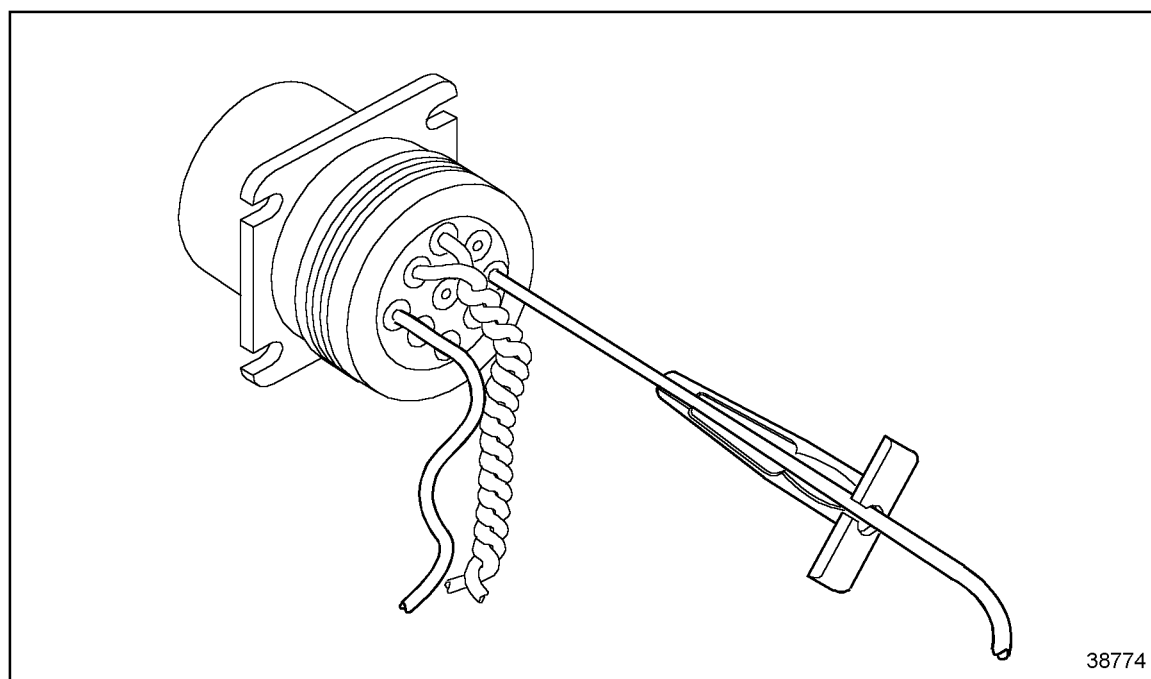

Figure 3-50 Removal Tool Position
1. With the rear insert toward you, snap the appropriate size remover tool over the cable of contact to be removed. See Figure 3-50.